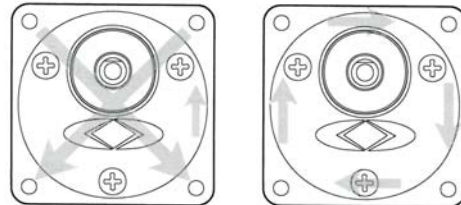

Figure 16.
5. After assembling, please fasten the 4 exclusive bolts diagonally (Figure 16). Please fasten bolts to the required torque specifications. Table 2